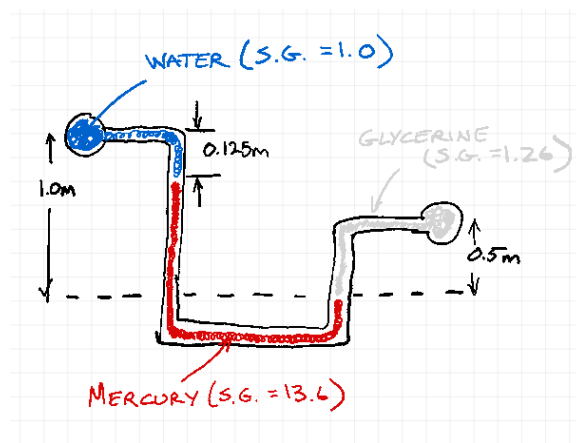

Figure 1:
16. Water flows at a steady rate of $192 \frac{\text{ft}^3}{\text{s}}$ through a concrete-lined rectangular channel 16 ft wide as depicted in Figure 1. Water enters the 0.35% sloped channel ($S_0 = 0.0035$) at location 1 and is flowing at 110% normal depth ($1.1 \times y_n$). The water exits over a 3-foot tall weir (assume sharp-crest weir) at location 2.